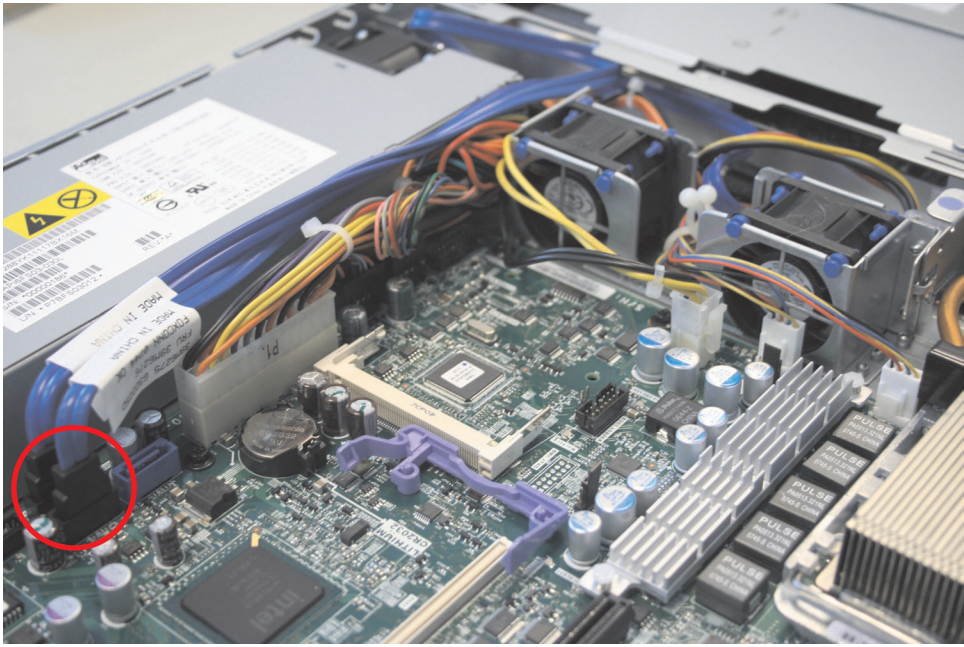

Figure 114. SAN Volume Controller 2145-8A4 SATA cable connectors
8. Notice where the two SATA cables that are connected to the backplane are connected to the system board, as shown in Figure 114 on page 128. Then disconnect the two SATA cables from the system board.